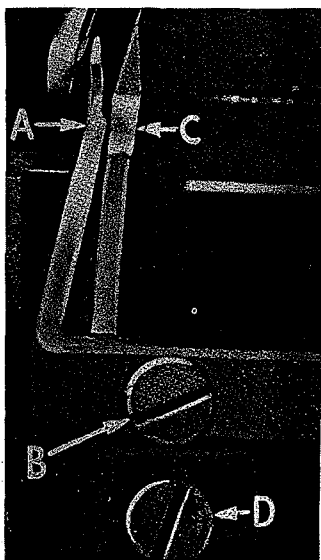

Fig. 6
Set rear needle guard (A, Fig. 6) as high as possible, without interfering with either lower looper or movement of lower knife holder, but still in position to deflect needles forward $.002$ -. $.004$ inch. Screw (B) is used to set rear needle guard. Make sure there is no interference between rear needle guard and lower looper.
Assemble front needle guard (C, Fig. 6). When lower looper is springing needles off rear needle guard, set front needle guard as close as possible to needles without touching. Screw (D) is used to adjust and set front needle guard. After this setting, make sure there is no interference between needle guards and differential feed dog.